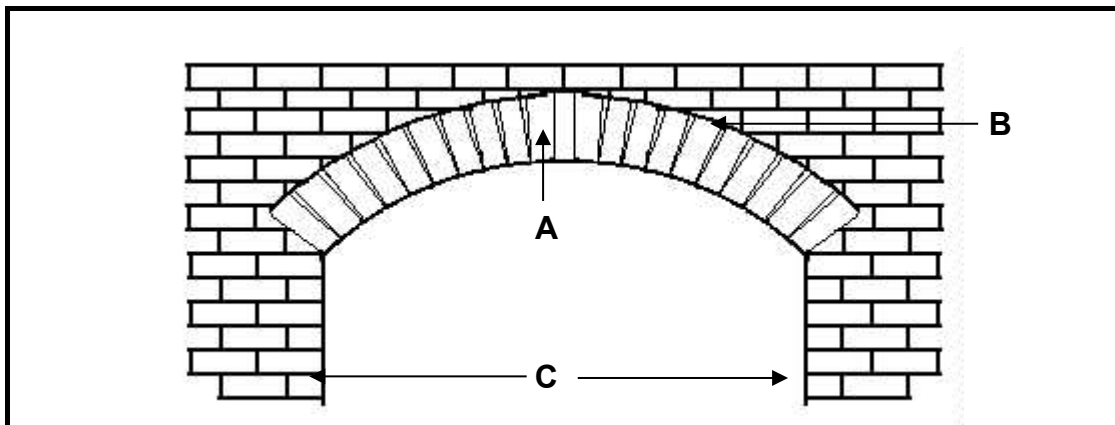

FIGURE 5.10
5.10 Answer the question about the arch in FIGURE 5.10.